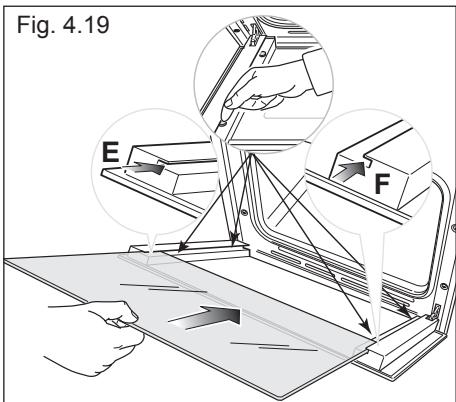
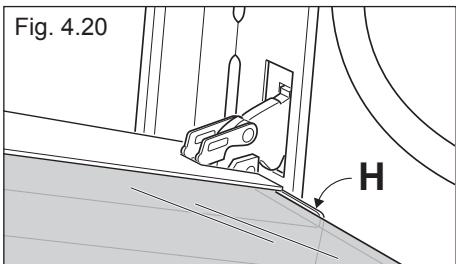

Fig. 4.19
Fig. 4.20
IMPORTANT: It is advisable, while refitting the glass, to keep pressed in position the four rubber pads "D", by a finger, to avoid breakage or slippage of the rubber pads themselves (fig. 4.19).
- Insert the pane in the left "E" and right "F" slide guides (fig. 4.19), and gently slide it to the retainers "H" (fig. 4.20).